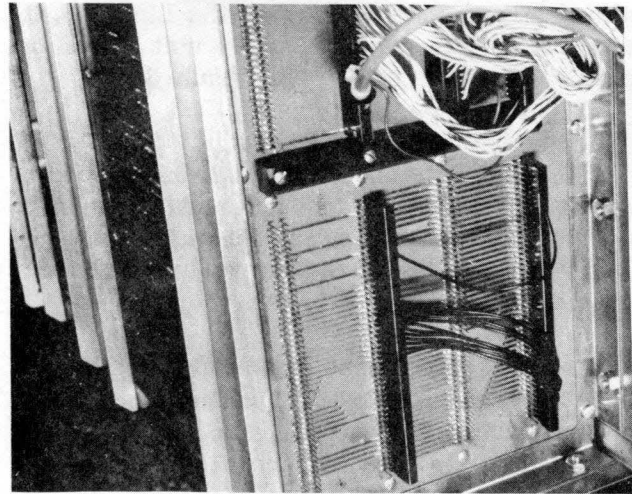

Figure 3-19 Installation of Insert and Accent Logic Board
- Remove jumper plugs from connectors A and C (See Figure 3-19).